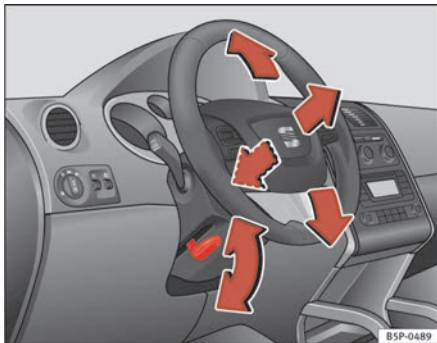

Fig. 135 Adjusting the steering wheel position
- Push the lever under the steering column ⇒ fig. 135 down ⇒ ⚠.